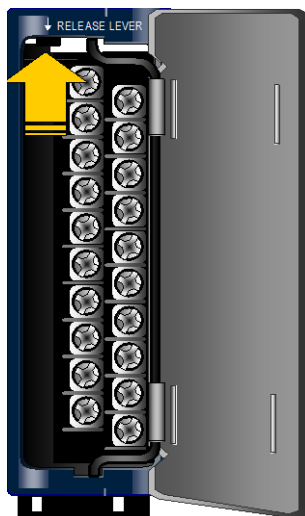

Figure 31: Release Lever Usage prior to Removal from I/O Module
2. Push up the release lever (Figure 31) to unlock the terminal block.